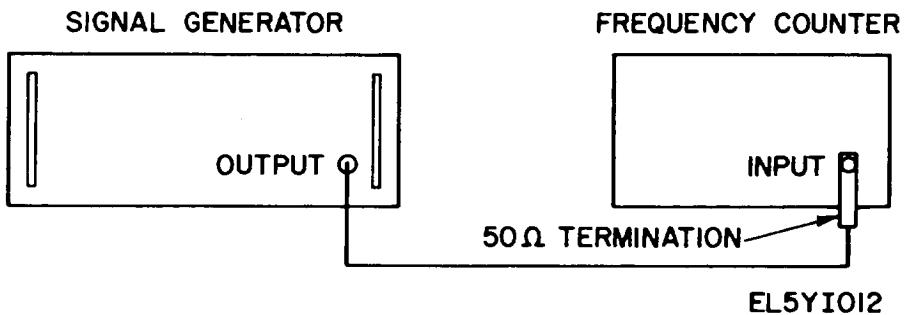

Figure 9-1. Test setup, output frequency accuracy.
- Connect the equipment as shown in figure 9-1